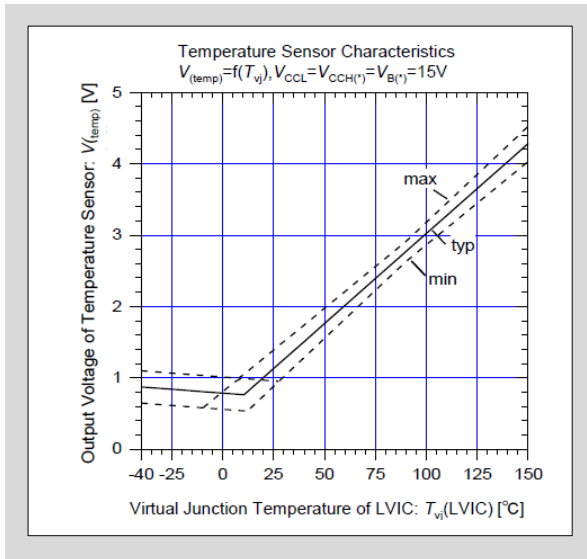

Fig. 3-24 LVIC virtual junction temperature vs. TEMP output voltage characteristic (without pull-down resistor)
- Fig. 3-24 shows the LVIC virtual junction temperature versus TEMP output voltage characteristics. In the case of the MPU power supply voltage is 3.3V, connect a Zener diode to the TEMP terminal. The output voltage shows clamp characteristic at below room temperature. Connect a 5k Ω ±10% pull-down resistor $R_{pull\downarrow}$ to the TEMP terminal if linear characteristic is required.